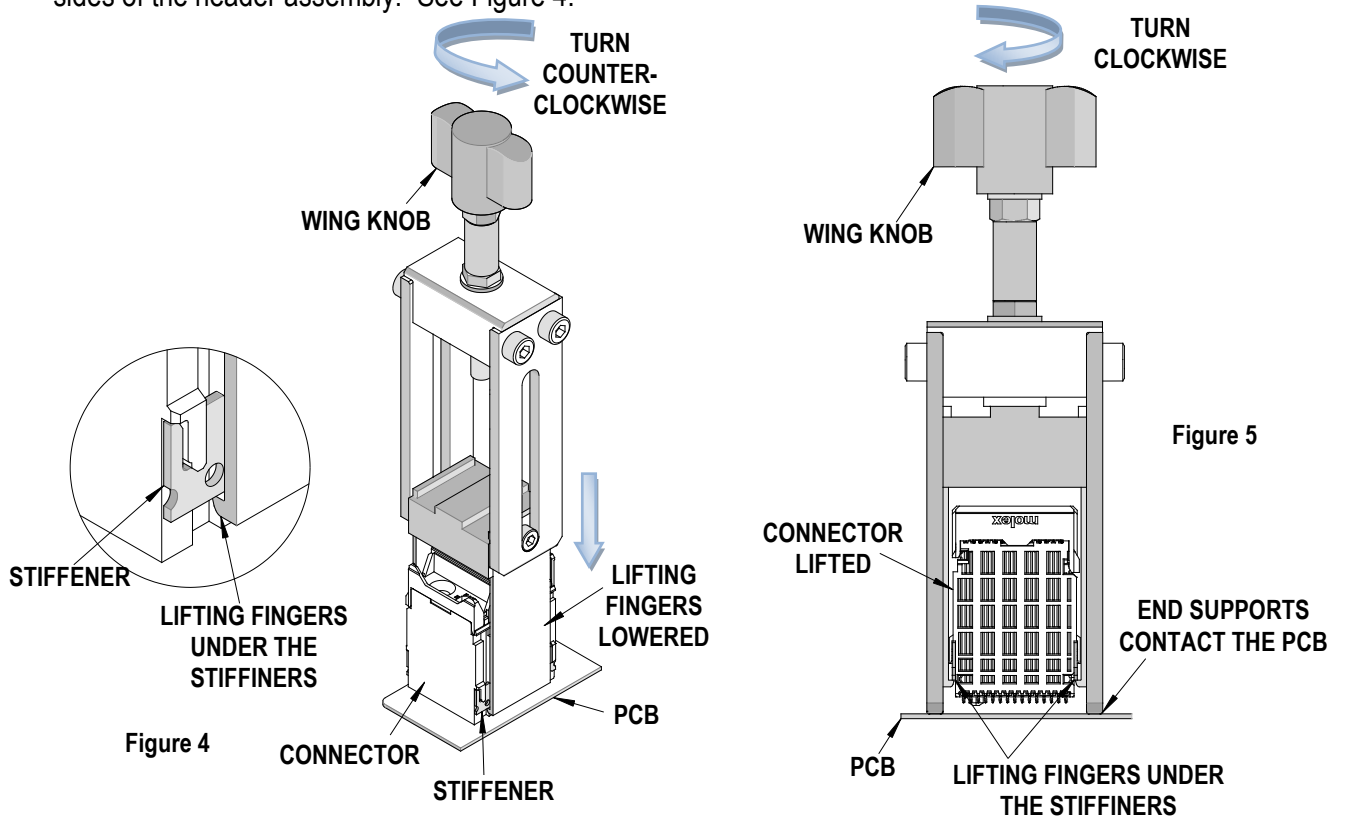

Figure 5
4. Turn the Wing knob clockwise (CW) until the header assembly is removed from the PCB. See Figure 5.